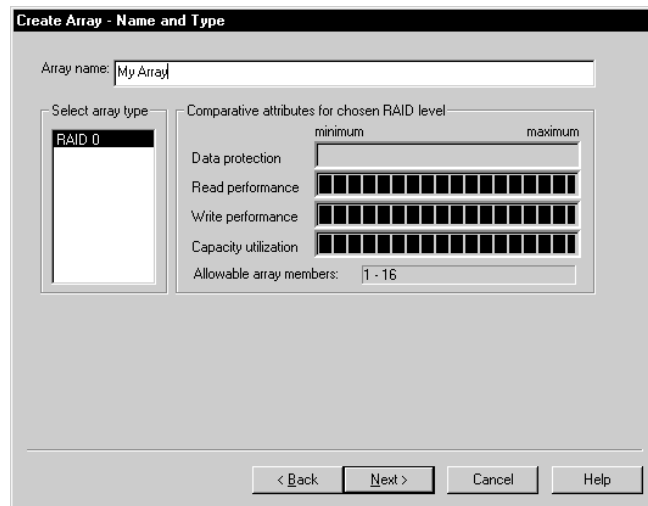

Figure 5-4. Create Array - Name and Type Dialog Box
- 6 When all disks for the new array have been selected click **Next**. The Create Array - Name and Type dialog box appears, as shown in Figure 5-4.